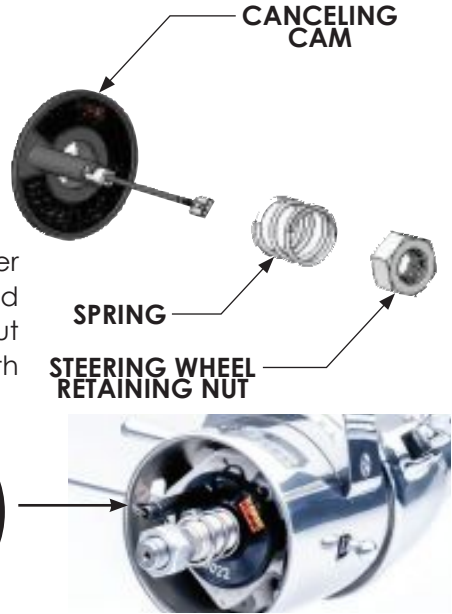

FIGURE 3
1. Position the canceling cam (as shown in figure 3) between 10 and 11 o'clock.